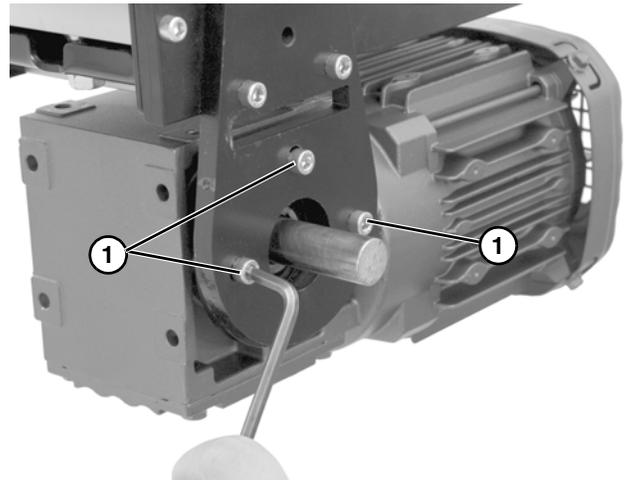

Figure 26
5. Remove mounting screws (**Figure 26, item 1**) and remove gearmotor.